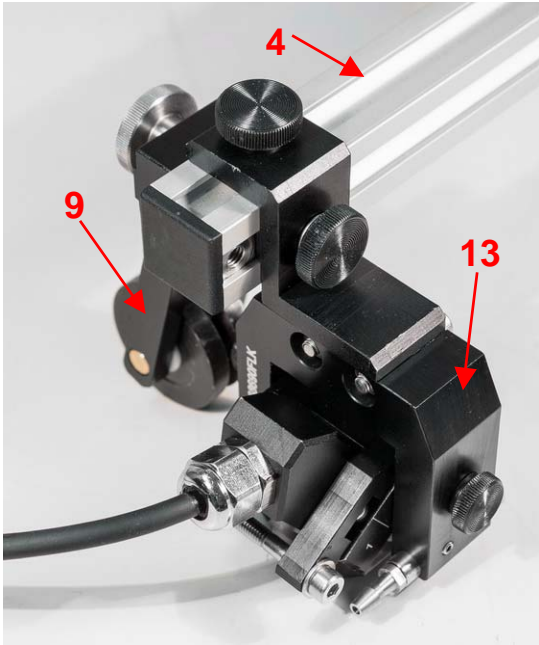

Fig. 15
2. Attach Probe-Holder(s) [13] and wheels [9] to the rail at opposite sides as it is shown on the Fig.15 and 16